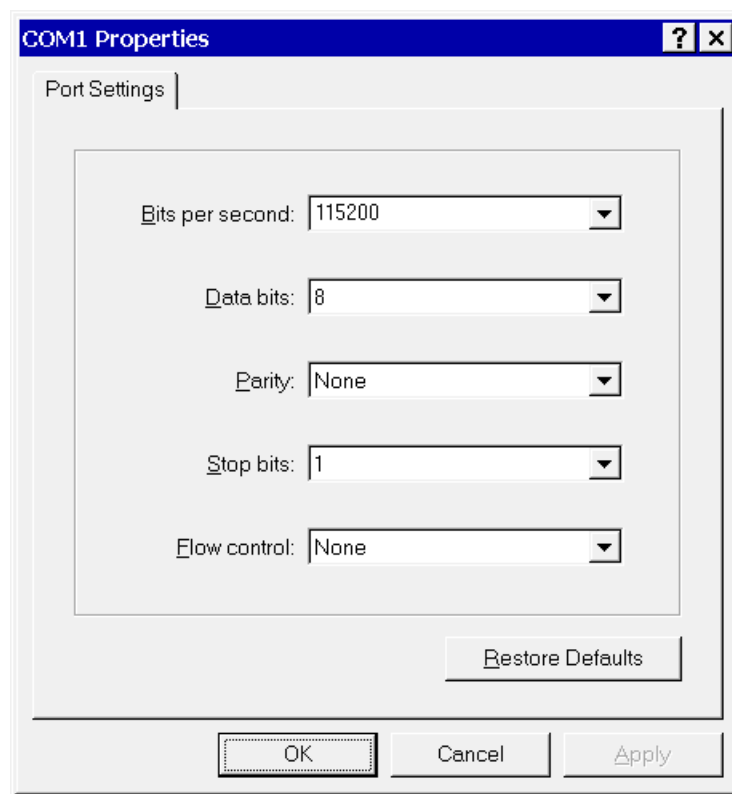

Figure 55: HyperTerminal Settings
- Select 115200 bits per second, 8 data bits, Parity None, 1 Stop bit, Flow control None. (See figure 55)